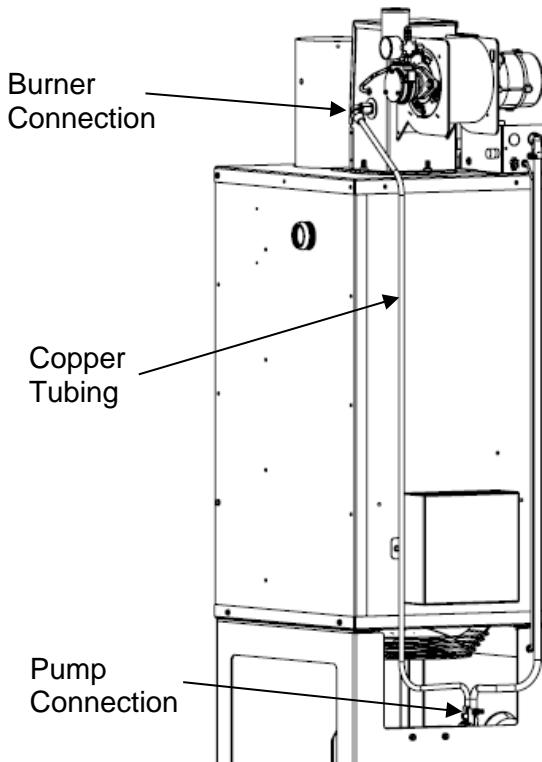

Figure 2.4 – Installing the Fuel Tubing
- Unroll and route the tubing around the Clean Out Cover and up the back side of the Cabinet to the inlet elbow fitting on the side of the burner. Refer to Figure 2.4. NOTE: Be careful not to kink the tubing.